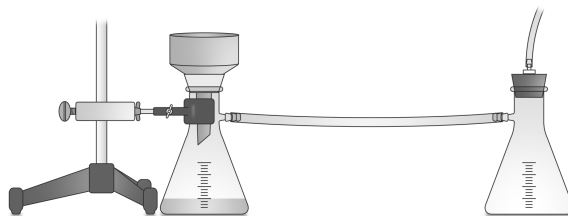

Figure 2. Sample filtration setup
8. Filter the solution according to your instructor's directions. A sample filtration apparatus is shown in Figure 2. Pour the solution into a Büchner funnel that contains a quantitative disc filter. The tube leading out of the empty flask is connected to a hand-operated vacuum pump or water aspirator.